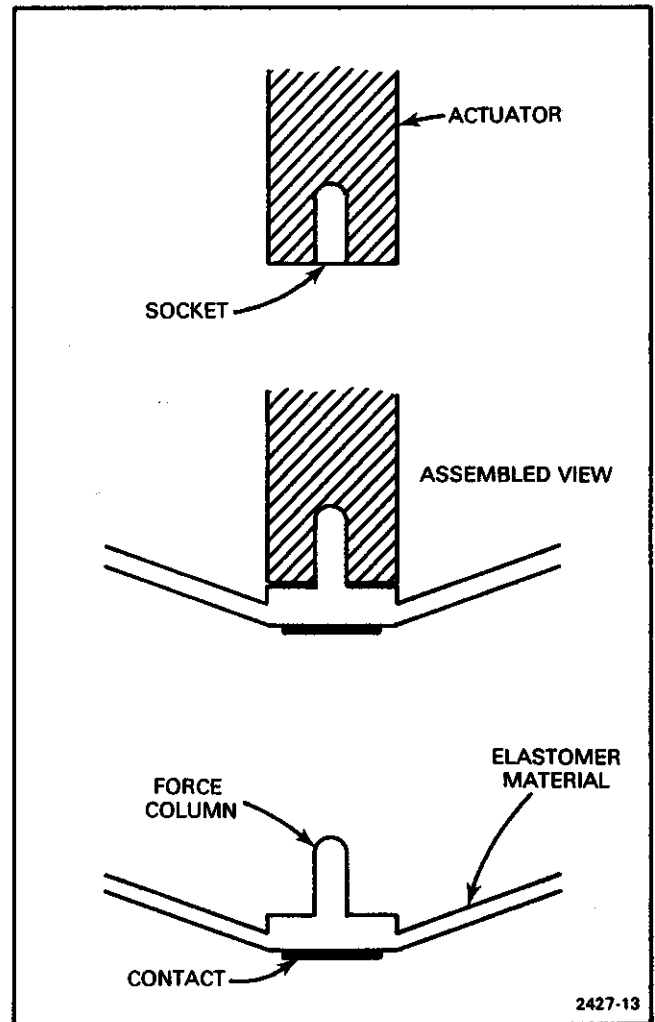

Figure 4-6. Details of elastomer switch.
9. Clean the elastomer contacts, if necessary, by washing them very lightly and carefully with a small brush and isopropyl alcohol. Do not use anything that could leave fibers or other material on the contacts. Carefully blow off the excess alcohol and allow to dry. Be very careful not to dislodge the elastomer strips from their proper positions by unseating the elastomer force columns from the sockets in the inner and outer actuators. Figure 4-6 shows details of the elastomer switch.